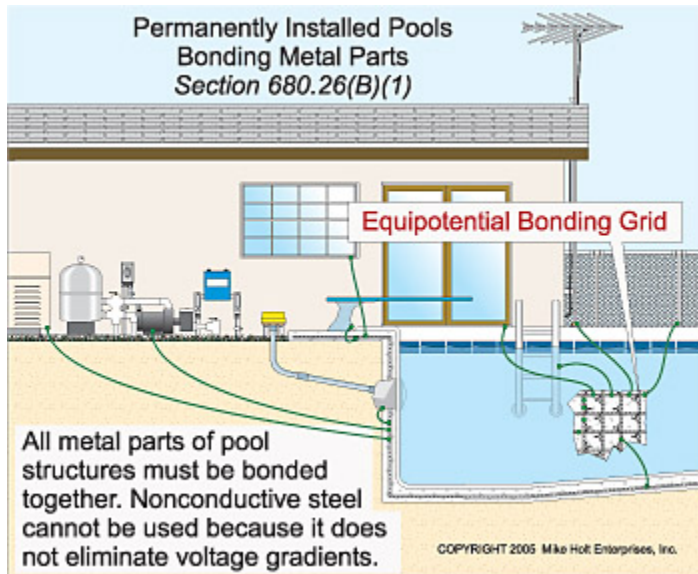

Fig. 3. The steel tie-wires securing the rebar are suitable for bonding the reinforcing steel.
1. All metallic parts of reinforcing metal not encapsulated with a nonconductive compound. The usual steel tie-wires that secure rebar together are considered suitable for bonding the reinforcing steel together (**Fig. 3** on page 46). Where conductive reinforcing steel of the permanently installed pool, outdoor spa, or outdoor hot tub shell and deck is not available, you must provide an alternative means in accordance with 680.26(C) to eliminate voltage gradients that would otherwise be provided by unencapsulated, bonded reinforcing steel.